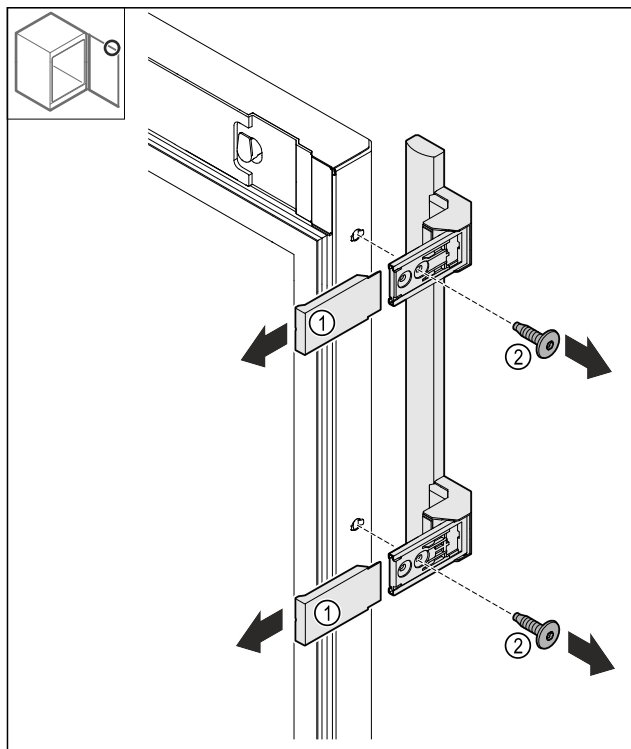

Fig. 24
- Pull off the Fig. 24 (1) covers.
- Loosen the Fig. 24 (2) screws.